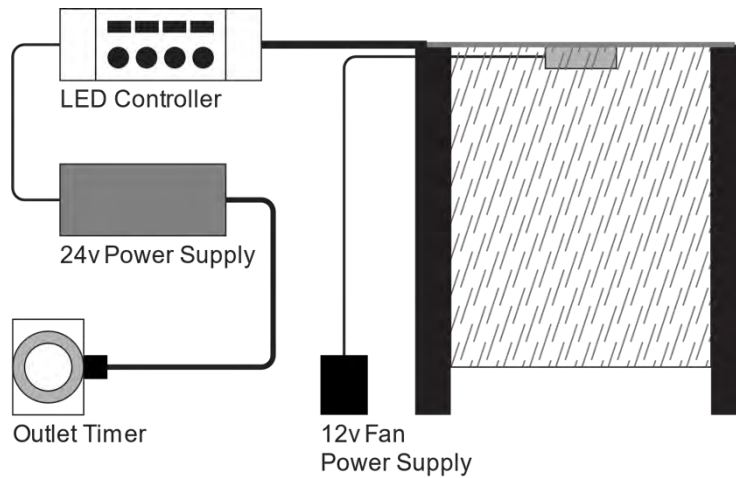

Figure 2. Old (2019-2021) Growing Beyond Earth® kit
- For comparison, Figure 2 shows the older version of the Growing Beyond Earth® kit including an outlet timer, fan power supply, and LED controller. Those components are now unnecessary because their functions are handled by the Control Box.